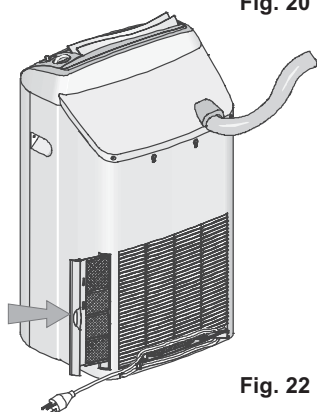

Fig. 22
- Reinstall the main filter by inserting it in the back opening of the unit and pushing the filter inwards (See Figure 22).